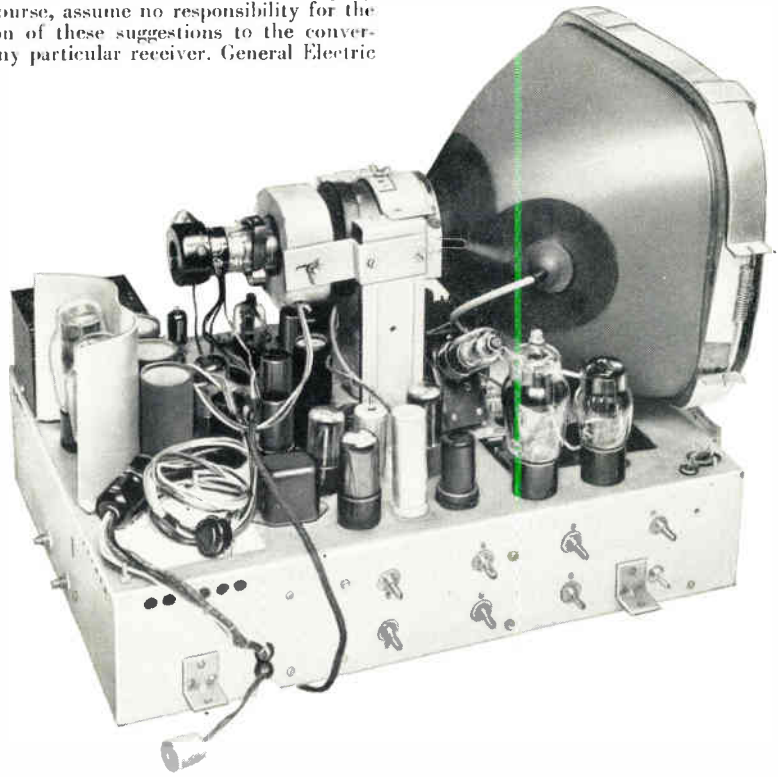

Fig. 6. Chassis of Motorola Model VF-102 after the 14CP4 picture tube was mounted and all chassis changes made.
- The 10BP4 picture tube together with the front support ring and tension springs were removed. The support ring was cut and reformed to fit the 14CP4 picture tube, and the tension springs were shortened as can be seen in Fig. 6.
- The 1B3-GT rectifier mounting bracket was removed by drilling out the rivets. The picture tube shield grounding spring assembly was removed and the rear section cut off at a point just behind the grounding spring. The remaining section was then remounted so that the tube set at approximately a 30-degree angle with the chassis midway between the yoke support bracket and the picture tube shield as shown in Fig. 6. The filament of the 1B3-GT tube should be wired directly to the transformer winding omitting the 3.9-ohm resistor R-109.
16. The focus coil was replaced with a General Electric R1.F-038. The 1000-ohm resistor which was connected between the focus control and one end of the focus coil was shorted out to correct the range of the focus control. This resistor is located in a small ventilated compartment at the rear of the chassis. The photograph in Fig. 6 was taken before the focus coil was changed.